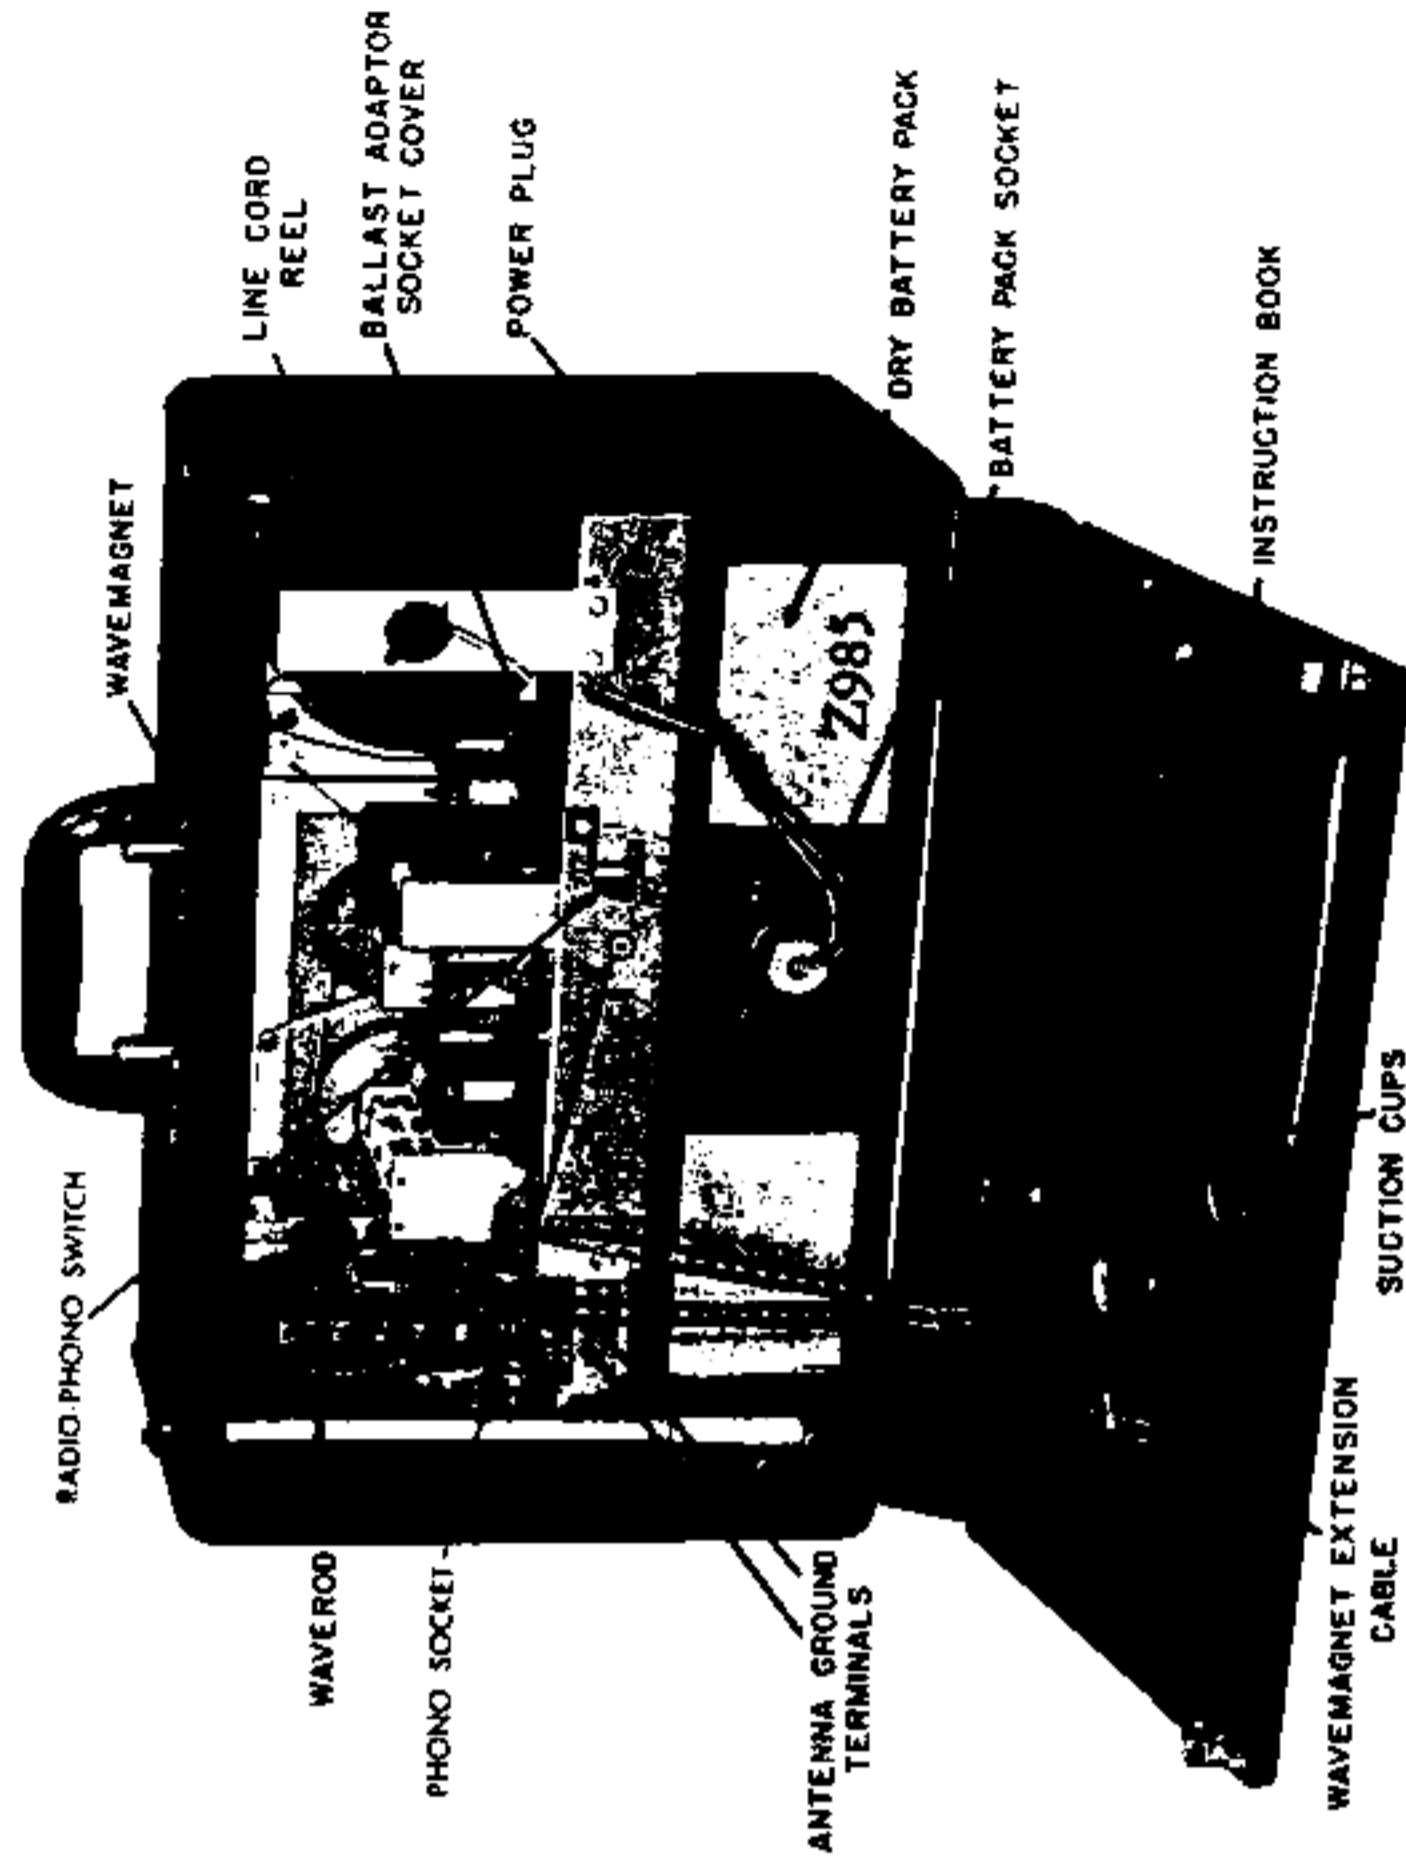

Figure 1 —Rear View, Back Cover Open.
wavemagnet cable is placed in the exact position as illustrated in fig. 1.
- B. Free the Wavemagnet cable by turning off the thumb screws which hold the cable to the cabinet back. (See fig. 1.) When wavemagnet is used in normal position (on top of cabinet) be certain that the
1. Free the wavemagnet cable by turning off the thumb screws which hold the cable to the cabinet back. (See Fig. 1.)